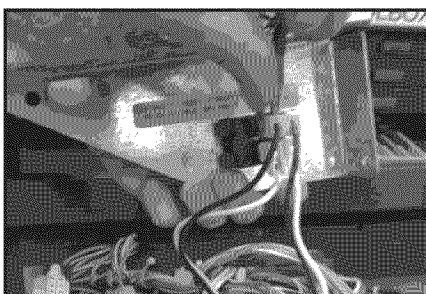

FIGURE 15
- Disconnect top Line and Neutral connectors. Using pliers, disconnect the two wires from the master power switch. See *Figure 15*.